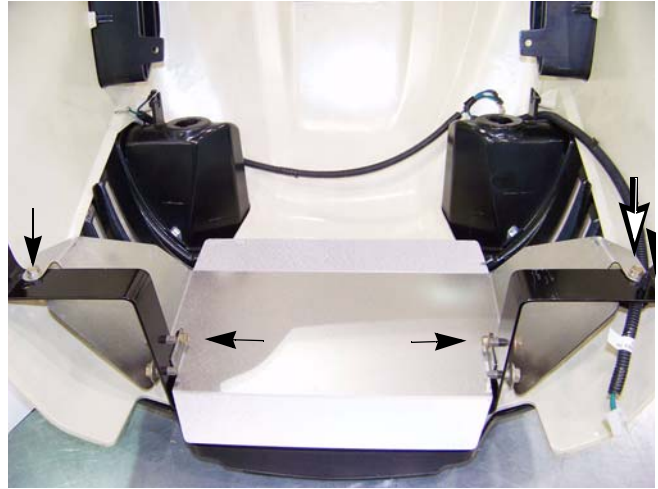

Figure 4.12
2. Remove the four screws, indicated by the arrows in Figure 4.12, using a 3/8" wrench.